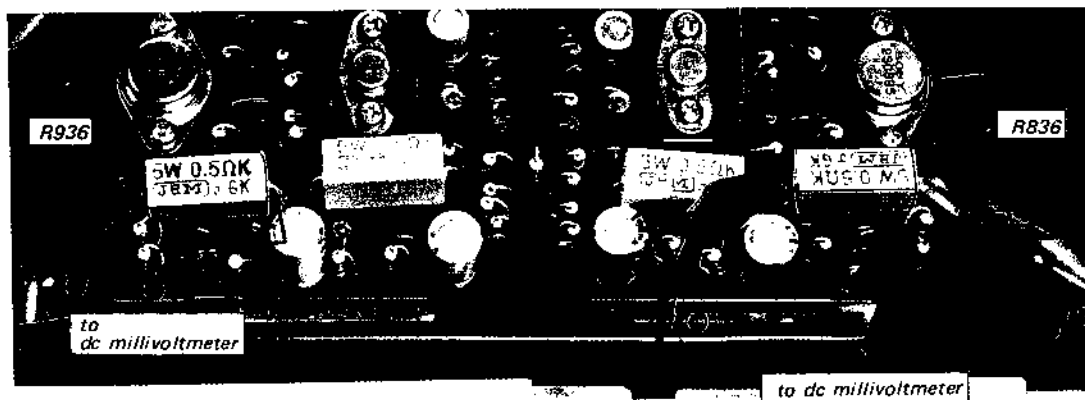

Fig. 3-16 Dc millivoltmeter connection
To avoid accidental power transistor damage, increase the ac line voltage gradually, using a variable transformer, while measuring the voltage across emitter resistors (R836, R936) of power transistors alternately as shown in Fig. 3-16. Check to see that the reading does not exceed 25 mV. If it does, turn off the power as soon as possible, then check and repair the trouble in the power amplifier board.
2. Connect the dc millivoltmeter across emitter resistor R836 (R936) of power transistor Q810 (Q910) as shown in Fig. 3-16.